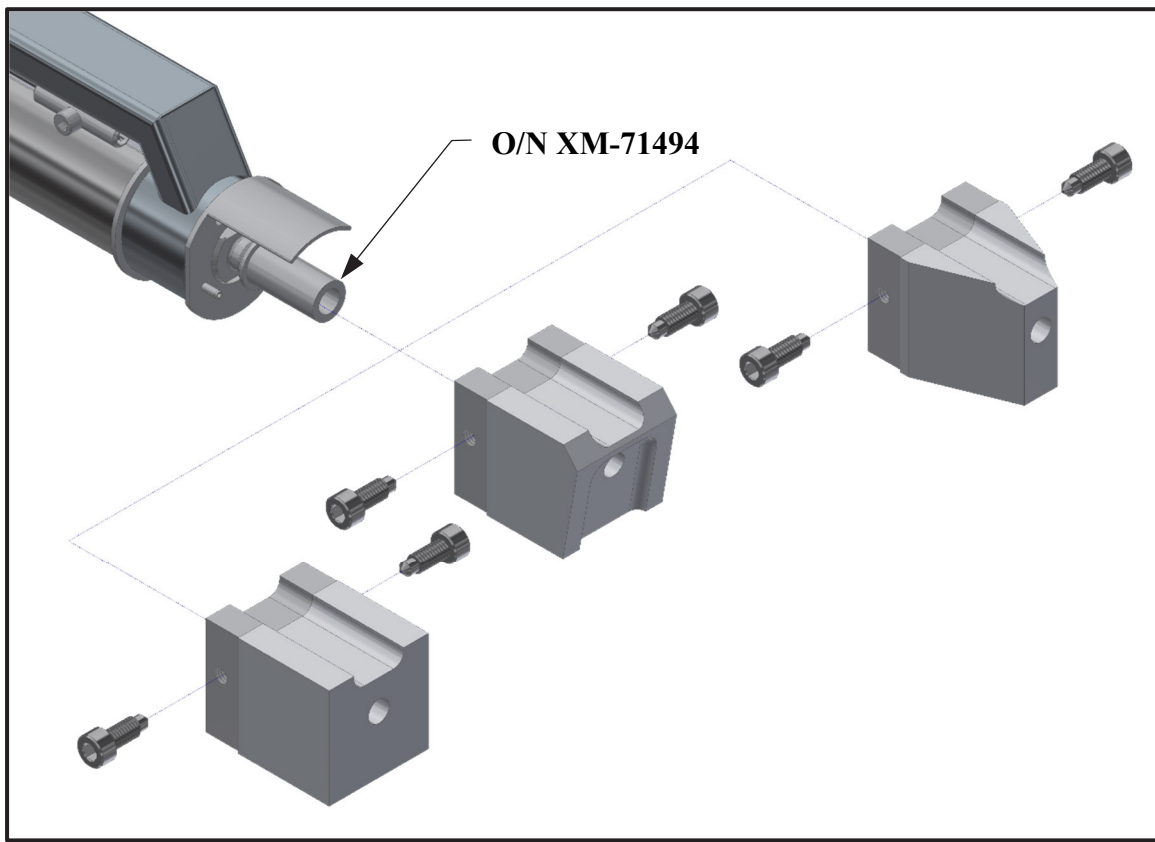

Figure 8.5
- b. Remove the Shoe Assembly from the Nozzle, order number XM-71494. Due to melted plastic material buildup removal may require strong twisting clockwise-to-counterclockwise, wiggling from side-to-side and substantial pulling force to remove (see Figure 8.5).